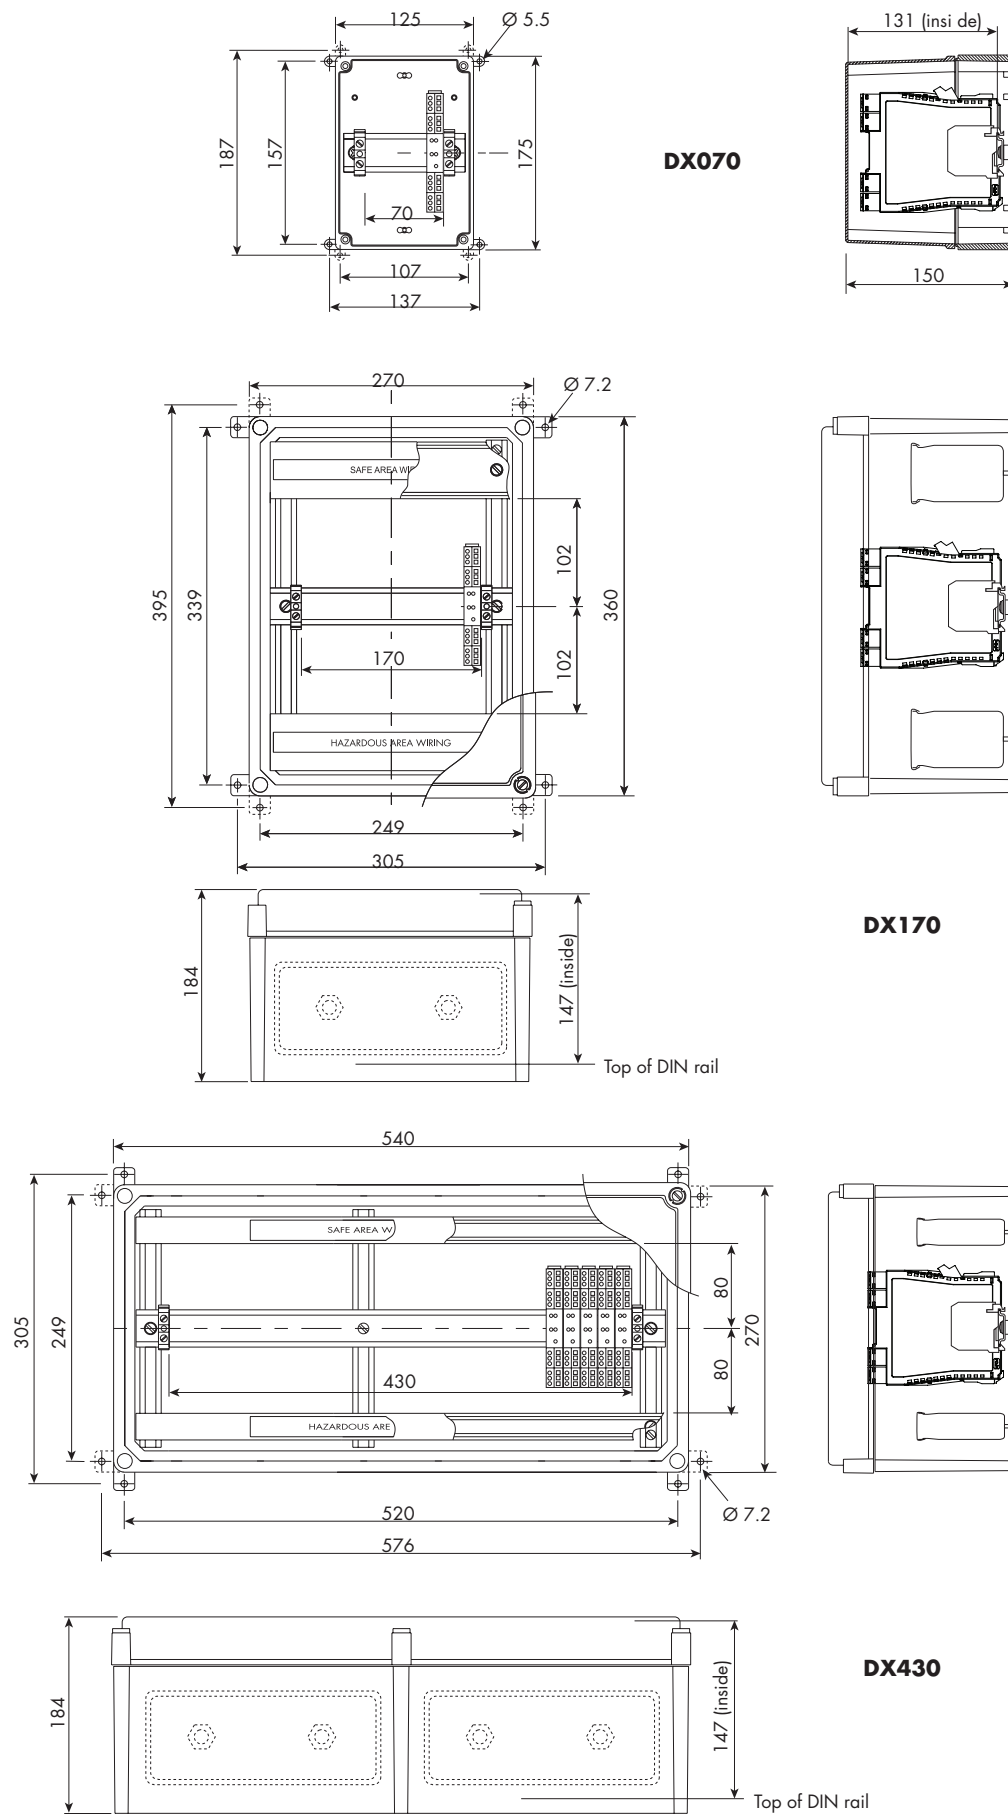

Figure 5.2: MTL's DX range of enclosures
Enclosures are usually selected on the basis of the number of units they will accommodate and Table 5.1 shows the capacity of each of the enclosures. Figure 5.2 shows each type of enclosure containing MTL5500 modules.
See Figure 5.2 for the dimensions and mounting hole distances, etc., of the three DX enclosures. The recommended method of mounting-described here-uses the four wall-mounting lugs supplied with each enclosure. An alternative method of mounting is by direct attachment to the mounting surface through the corner holes.
- Each lug can be used in one of two positions as shown in Figure 5.2.
- Appropriate fixing hole distances are shown in Figures 5.2.
The DX170 can accommodate one gland plate on each side - see figure 5.2 for details. Table 5.6 lists suppliers of suitable gland plate kits and Table 5.7 lists recommended glands.
The DX430 can accommodate two gland plates on each side - see figure 5.2 for details. Table 5.6 lists suppliers of suitable gland plate kits and Table 5.7 lists recommended glands.